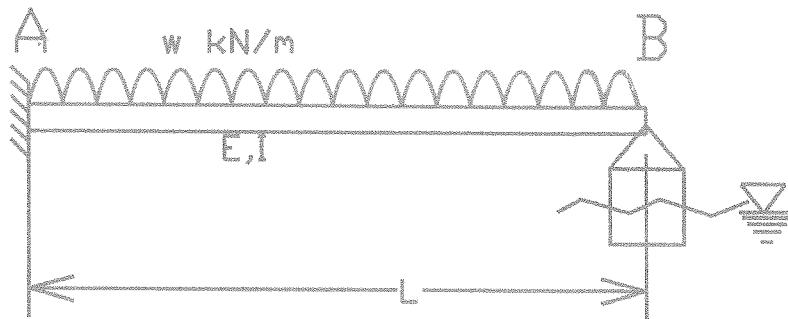

Fig. Q1
- Q1. a) Straight elastic beam AB of uniform cross section with constant flexural rigidity of EI deployed in a jetty is shown in the Fig Q1. Jetty beam is fixed at support A and floats on top of a cylindrical buoy radius R (in m) at point B as shown in Fig. Q1. Beam is expected to support a uniform distributed load of intensity  $w$  kN/m at critical conditions. Using three moment theorem, calculate the reaction at the floating support B. Ignore the self-weight of the beam AB and the self-weight of the float (Buoy). Consider float is at same level of the fixed support when the beam is in unloaded conditions. The buoyancy force of the float (uplift force acting on the structure due to water pressure) for 1 m length of immersion shall be taken as  $k$  ( $=\pi R^2 \rho g$ ). Assume that the water level remain constant along the section of the water way where the jetty is constructed.